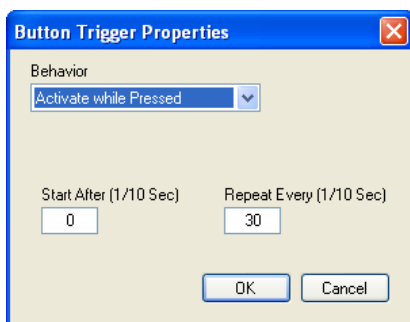

Figure 99: Button Trigger Properties Window (Activate while Pressed)
- **Activate while Pressed:** the trigger is activated again and again as long as the button is pressed. You can set the trigger delay time (Start After...), as well as the repetition delay time (Repeat Every...), see Figure 99